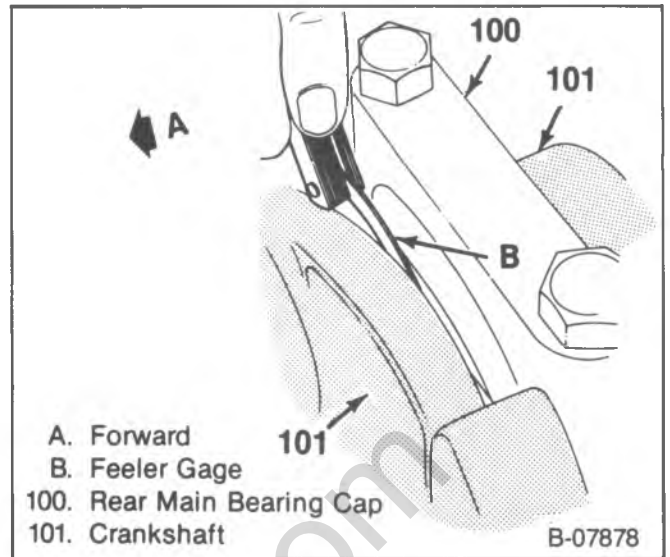

Figure 34—Measuring Crankshaft End Play
- With the crankshaft forced forward, measure at the front end of the rear main bearing with a feeler gage (figure 34). The proper clearance is 0.002–0.006-inch.